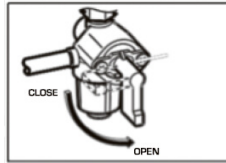

Fig 2
7.1.2. Open the fuel valve. FIG.2